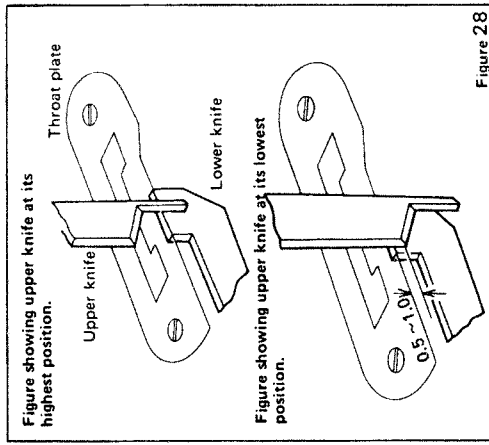

Figure 28
- 2) The position of the lower knife must be arranged in such a way so that it can be set in the indentation for the knife in the throat plate as shown in Figure 28.
- 3) The normal position for fixing the upper knife can be determined when the upper knife reaches its lowest point during operation. The front tip of the cutting edge of the upper knife will drop about 0.5~1.0mm against the surface of the tip of the cutting edge on the lower knife. (Figure 28)